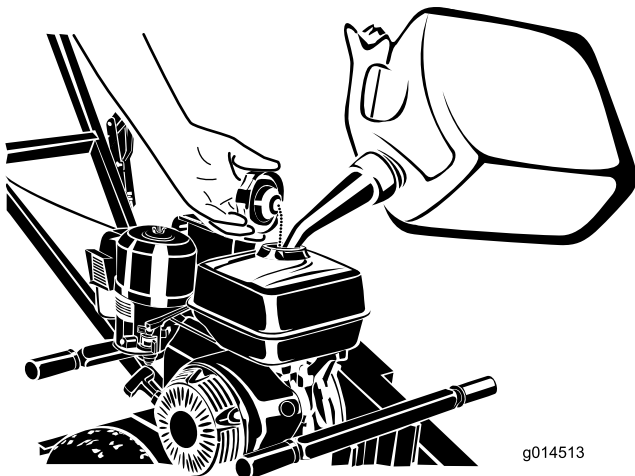

Figure 6
3. Clean around the fuel tank cap and remove it (Figure 6).